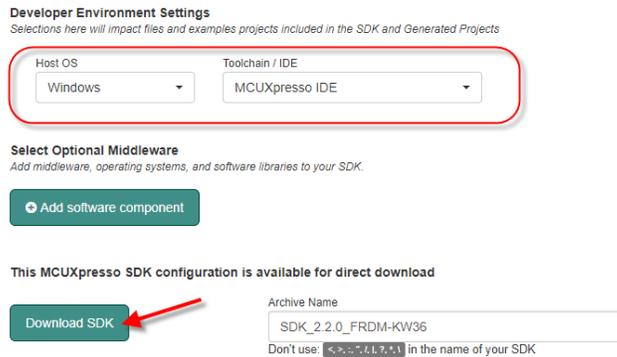

Figure 3. SDK Builder window
- d. Select “MCUXpresso IDE” and your Host OS, then click on “Download SDK” and agree with software terms and conditions to start your FRDM-KW36 SDK download. See *Figure 3*